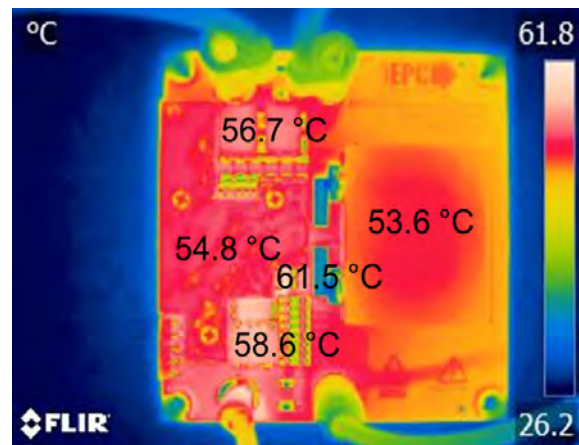

Figure 12: Thermal image of the EPC9153 operating at 56 VIN, 20 V and 12.5 A output, thermal steady state
As shown in Figure 12, the EPC9153 board with the heat-spreader installed measures a temperature rise of less than 40 °C at full load operation without any forced air.
2. With power off, connect the load to VOUT+ and VOUT- as in Figure 12.